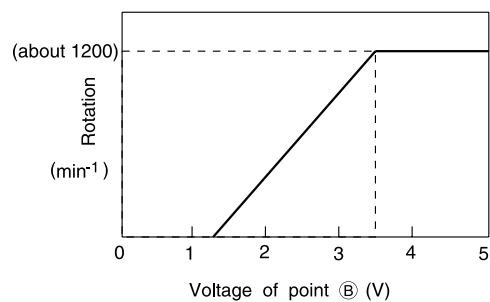

Fig. 6-3
- This pulse changes to analog voltage by R751 and C751 and it is applied to the fan motor as instruction voltage number of rotations. The relationship between the voltage of point ①B and number of rotations becomes as shown in Fig.6-3. (The gap may arise depending on the condition of unit.)
- The feedback pulse of number of rotation is outputted from the fan motor and input to micro computer pin ①④. The frequency of this pulse is 12/60 of the number of rotations. (Ex: 1000min⁻¹ X 12/60=200Hz) The micro computer observes this frequency and to make it as the instruction number of rotation all the time, adjusts the output pulse width of pin ④⑩.